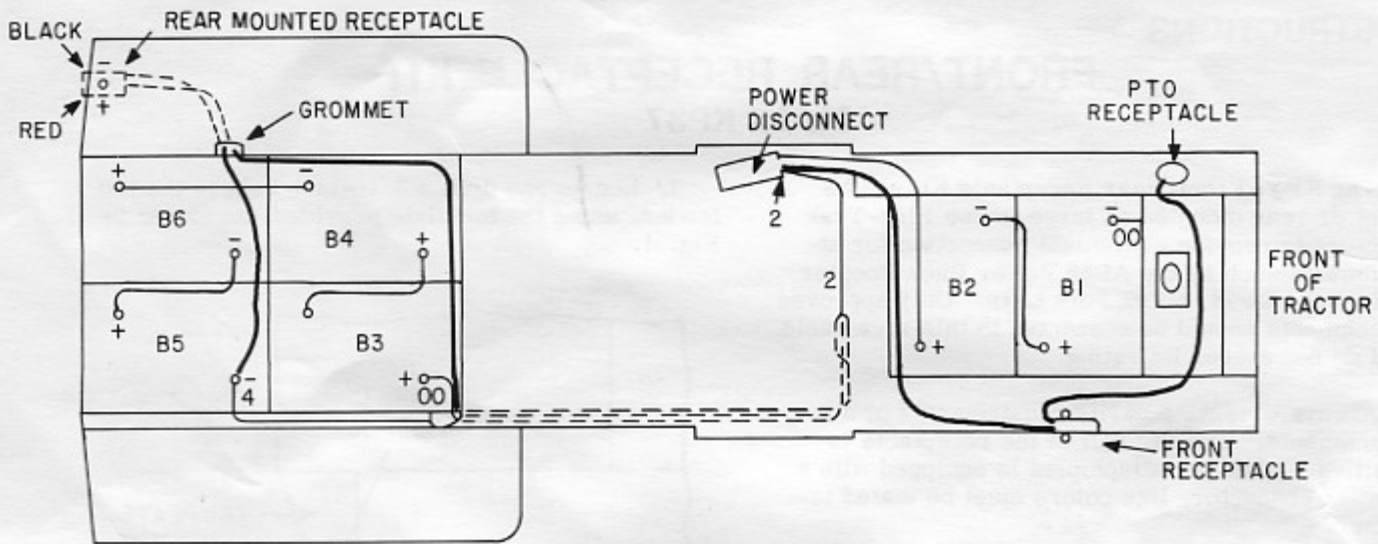

Fig. 3 Wiring Layout - Top View
7. Thread the long wire from the receptacle through the grommet from the outside of the box. Train the wire along the upper left and front edges of the battery box, and through the tubing used in the undercarriage harness, to pass from the battery box to the underside of the frame. See Fig. 3. Keep plenty of slack above the frame to accommodate battery reinstallation.
10. Replace the batteries following layout shown in Fig. 3. **DO NOT RECONNECT BATTERIES AT THIS TIME!**
12. Reconnect the batteries as shown in Fig. 3, connecting the short receptacle wire to the clamp on the negative post of battery B5.